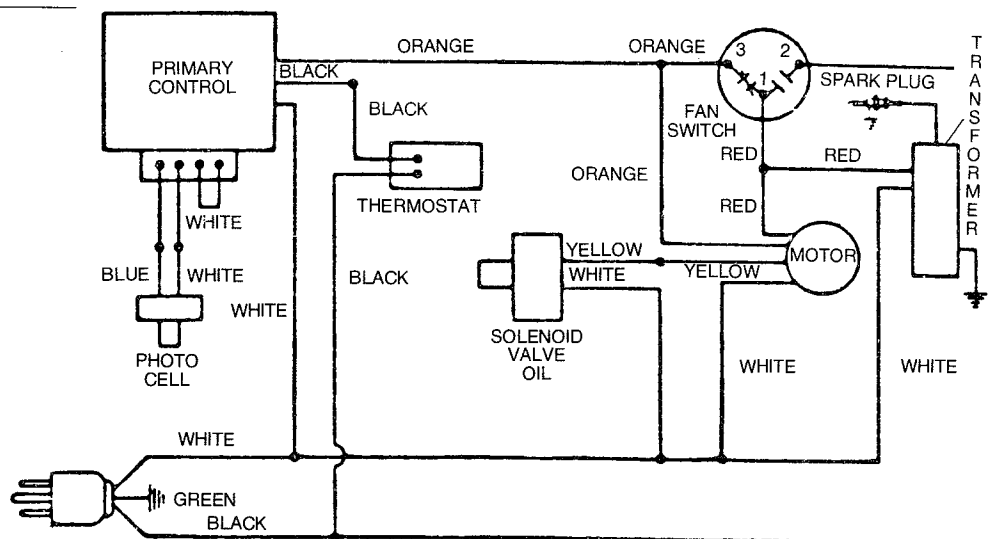

Figure 2
The following is a description of the normal automatic operating sequence of the heater (See the Wiring Diagram, Figure 2).
7. After replacing control system components, test fire the heater to make sure it will function properly. If it does not, check all wiring connections according to the wiring diagram, Figure 2. Repeat the testing procedure if necessary.